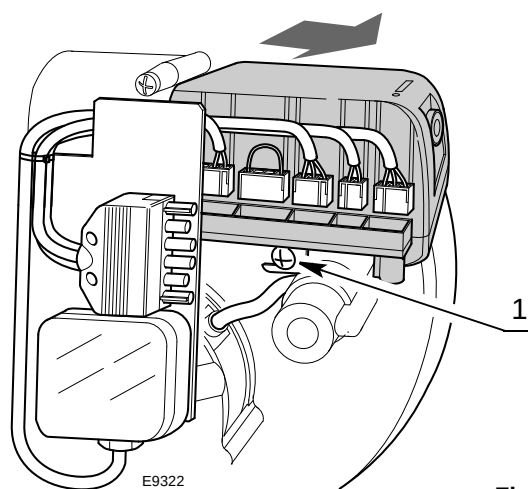

Fig. 17
- disconnect all the connectors connected to it, the 6-pin plug, the high voltage cables, and the earth wire (TB);
- loosen the screw 1)(Fig. 17) and pull the control box in the direction of the arrow.
- tighten screw 1)(Fig. 17) with a tightening torque of $1 \div 1.2$ Nm;